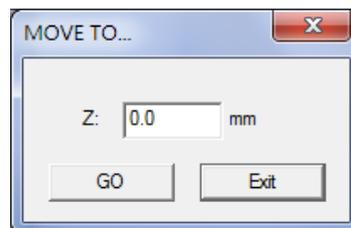

Fig. 7.3.02
1. Click “MOVE TO...” button and input the value in the dialog box like Fig.7.3.02 and click “GO,” the Z Axis will move to that specific position. The moving speed can be adjusted from “Speed” parameter.